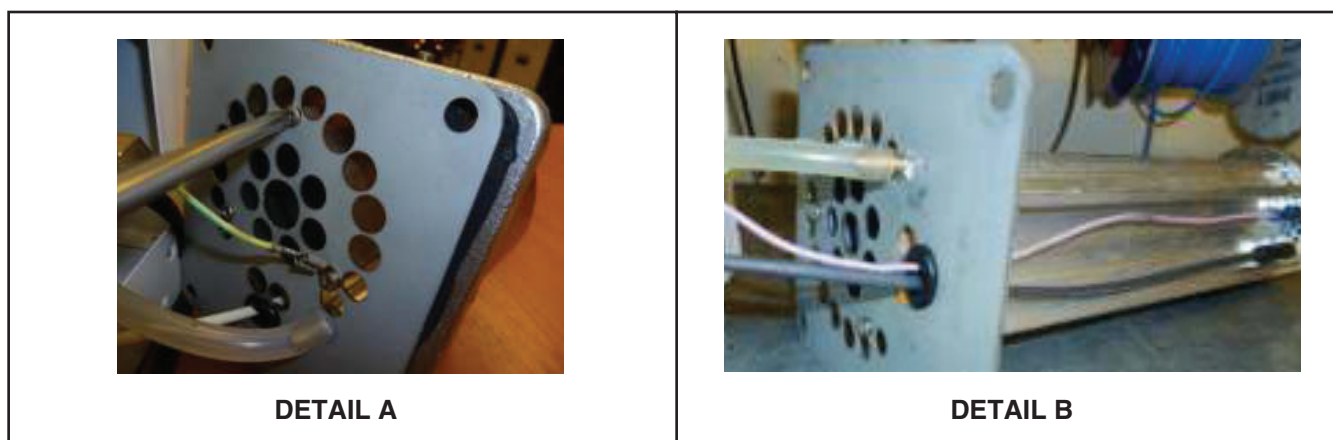

Figure 3. Burner Orifice Plate
- c. See Figure 3, DETAIL A. Remove and save three screws that secure existing burner orifice plate to burner tube and remove plate and gasket. Discard gasket.
- e. See Figure 3, DETAIL B. Orient replacement burner orifice plate with impulse stud and replacement retaining washer facing in correct direction and replacement cable grommet fitted to oblong hole in bottom of plate.